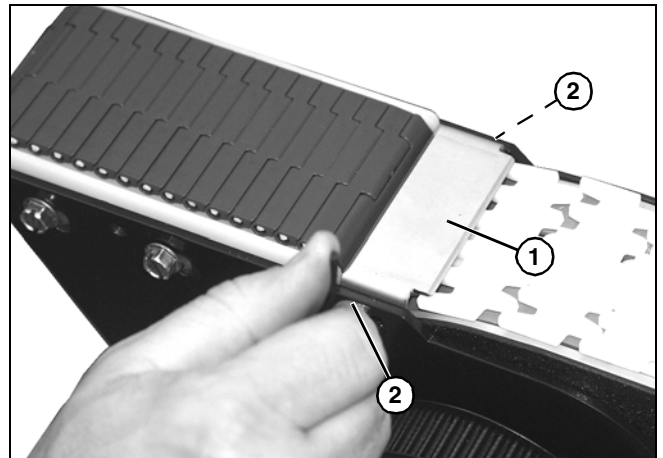

Figure 108
7. Install tensioner plate (Figure 108, item 1) with two socket head screws (Figure 108, item 2).